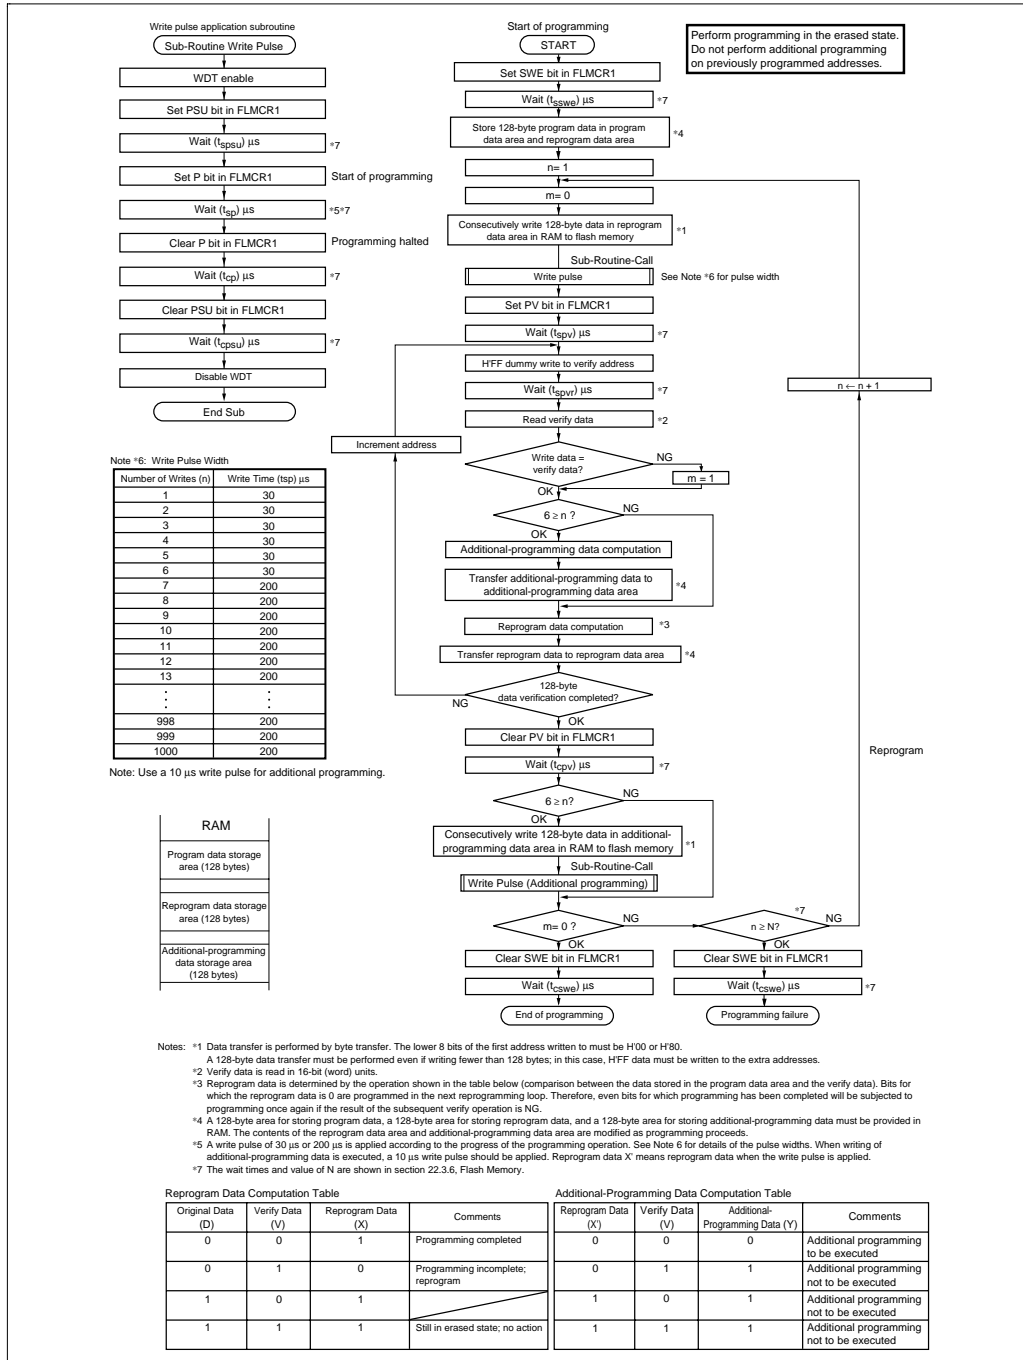

Figure 18.10 Program/Program-Verify Flowchart (128-Byte Programming)
When writing data or programs to flash memory, the program/program-verify flowchart shown in figure 18.10 should be followed. Performing programming operations according to this flowchart will enable data or programs to be written to flash memory without subjecting the device to voltage stress or sacrificing program data reliability. Programming should be carried out 128 bytes at a time.
After the elapse of the given programming time, clear the P bit in FLMCR1, then wait for at least (t_{cp}) μ s before clearing the PSU bit to exit program mode. After exiting program mode, the watchdog timer setting is also cleared. The operating mode is then switched to program-verify mode by setting the PV bit in FLMCR1. Before reading in program-verify mode, a dummy write of H'FF data should be made to the addresses to be read. The dummy write should be executed after the elapse of (t_{spv}) μ s or more. When the flash memory is read in this state (verify data is read in 16-bit units), the data at the latched address is read. Wait at least (t_{spvr}) μ s after the dummy write before performing this read operation. Next, the originally written data is compared with the verify data, and reprogram data is computed (see figure 18.10) and transferred to RAM. After verification of 128 bytes of data has been completed, exit program-verify mode, wait for at least (t_{cpv}) μ s, then clear the SWE bit in FLMCR1. If reprogramming is necessary, set program mode again, and repeat the program/program-verify sequence as before. The maximum number of repetitions of the program/program-verify sequence is indicated by the maximum programming count (N). Leave a wait time of at least (t_{csw}) μ s after clearing SWE.
- 6. The program/program-verify flowchart for the H8/3064F-ZTAT B-mask version is shown in figure 18.10.